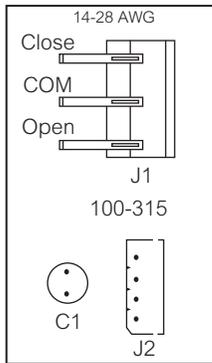

Figure-1 Typical Wiring of Three-Wire Floating Non-Spring Return Valves.
1. Remove the cover from the actuator, then connect the power and control wiring to the terminal block (Figure-1 and Figure-3).